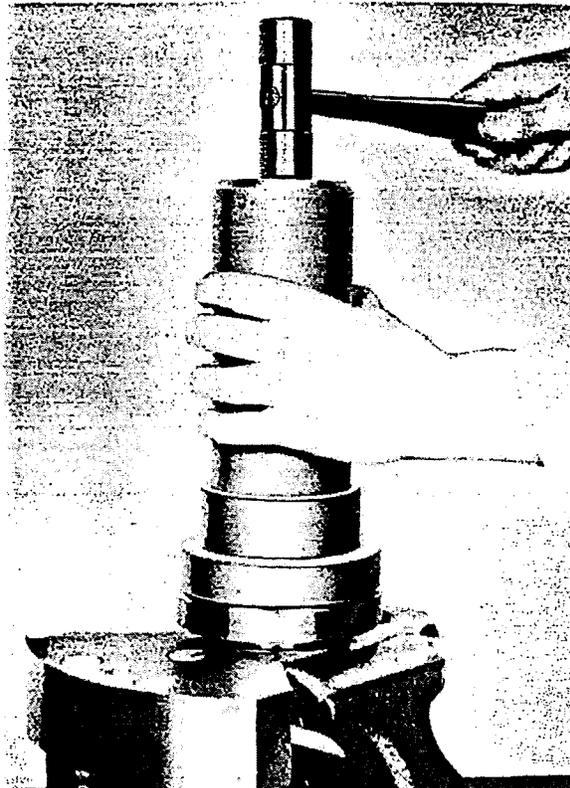

Figure 32 - Installing Rear Main
b. Place inner race of rear main bearing over crankshaft and drive onto bearing seat using Driver (Tool No. T-24000) and Adapter for the particular make of bearing being installed. (Refer to T. O. No. 02-30-3) for Tool No. T-23000-2, -3, or -4). Refer to Figure 32. Make certain that bearing race is firmly seated. Assemble rollers, cage, outer race and retainer in place, and then place lock washer against inner race of bearing. Make certain that the retainer is properly centered on the bearing.